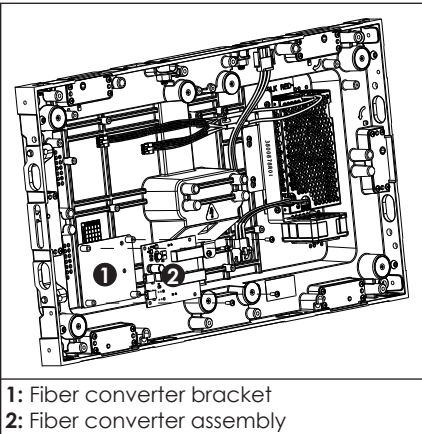

Figure 37: Install Fiber Converter
1. Use a Phillips screwdriver and the supplied hardware (Daktronics part number HC-1012 @ 2) to attach the fiber converter bracket (OS-3806526) to the panel. Refer to **Figure 37**. Hand-tighten to 5 in-lbs.
2. Use a Phillips screwdriver and the supplied hardware (HC-1012 @ 4) to attach the fiber converter assembly to the bracket. Refer to **Figure 37**. Hand-tighten to 5 in-lbs.